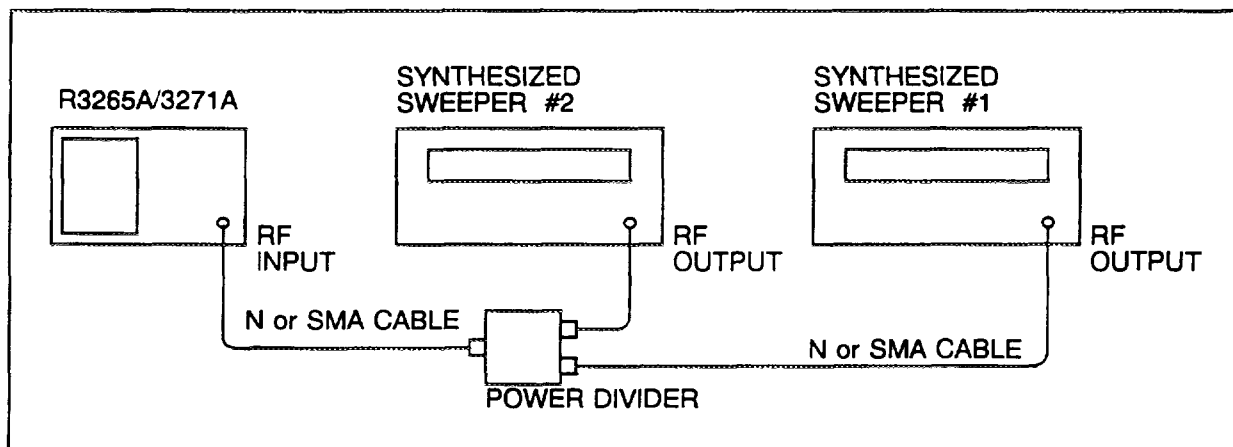

Figure 4-12 Third Order Intermodulation (<300 MHz) Test Setup
- Select power divider #1 and connect the units as shown in Figure 4-12.